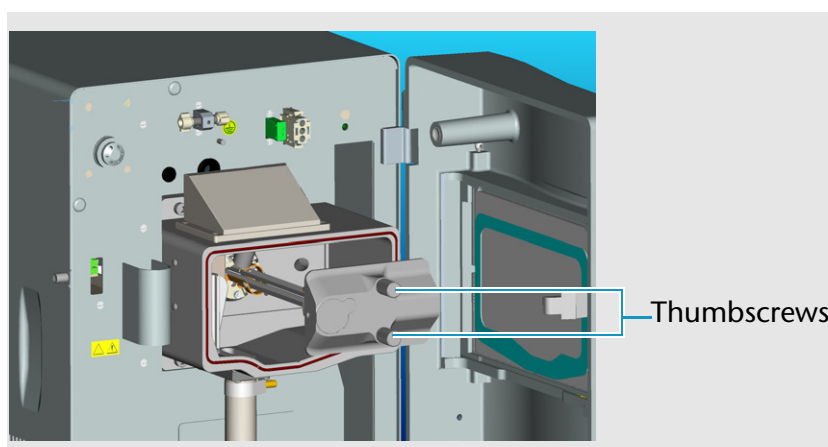

Fig. 65 Source block assembly being removed from the mass detector
2. Loosen the thumbscrews on the source block and pull the source block assembly out of the mass detector. See Figure 65.
The source block is self-aligning when the thumbscrews are fully secure. Finger-tighten only. See Figure 65 on 93.